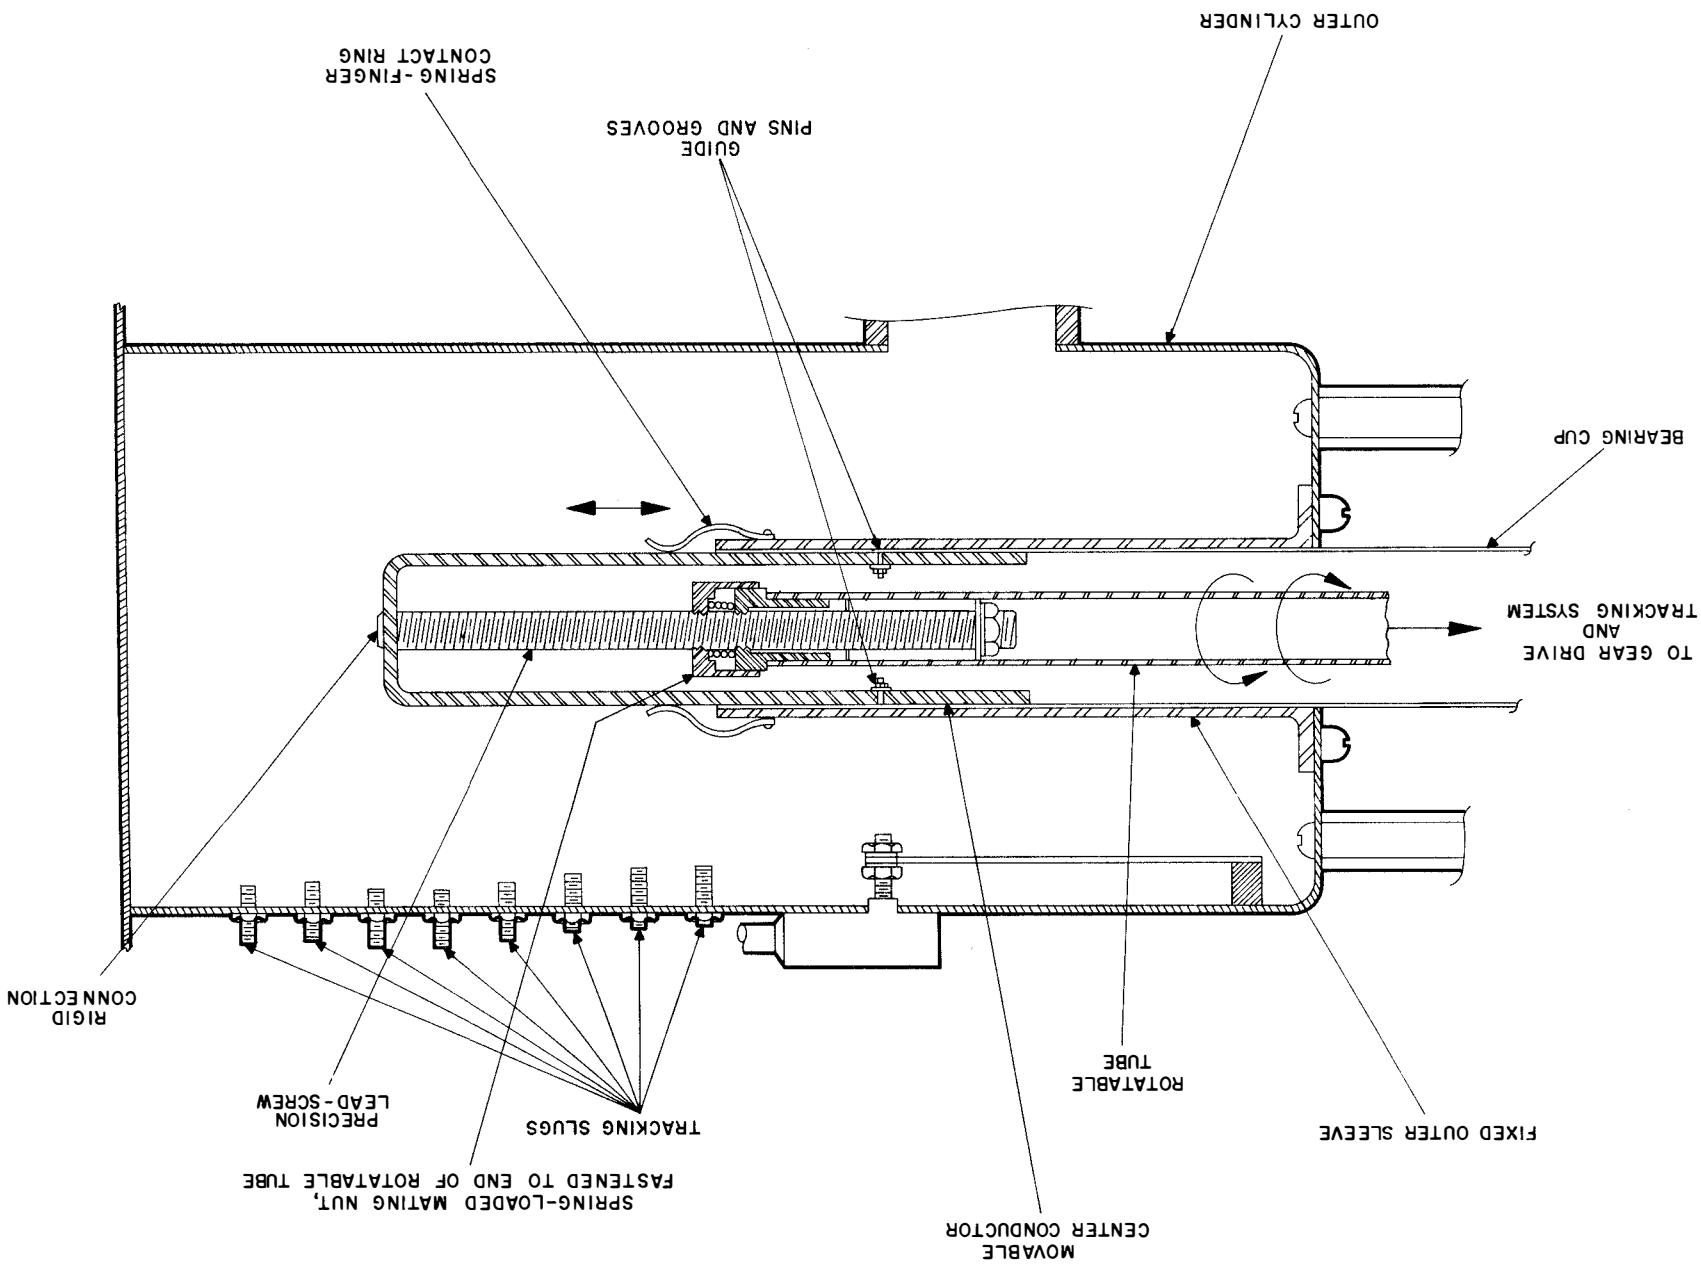

Figure 4-8. Cavity Tuning Mechanism, Cross Section Diagram
(1) CAVITY TUNING MECHANISM. - Refer to figure 4-8. The adjustable mechanism in each cavity is composed of a fixed outer conductor and a movable center conductor. The internal end of the movable conductor is closed, with a precision lead screw rigidly connected to the closed end. The lead screw passes through a mating nut secured in the end of a rotatable screw tube. The tube is connected to the driving gear train. As the tube rotates, the lead screw emerges or retracts through the nut, inserting or withdrawing the movable conductor. This action varies the effective length of the tuning element, thus changing the resonant frequency of the cavity. The fixed center conductor is electrically joined to the movable center conductor by a spring-finger contact ring. The lead screw and mating nut have a precision ground, quadruple lead, Acme thread. The thread advances the movable conductor 2/9 inch for each rotation of the screw tube. Approximately 28.5 turns are required to traverse the tunable range of each cavity. The lead screw and the movable conductor are prevented from turning by two pins that slide in mating grooves. The grooves are milled on the exterior of the bearing cup and the pins are rigidly secured to the movable conductor. Backlash in the lead screw and nut assembly is prevented by dual spring loading. The resettability of the tuning mechanism is such that the dial can be returned to any previous dial setting while maintaining a frequency accuracy of  $\pm 0.1$  mc for that particular setting.